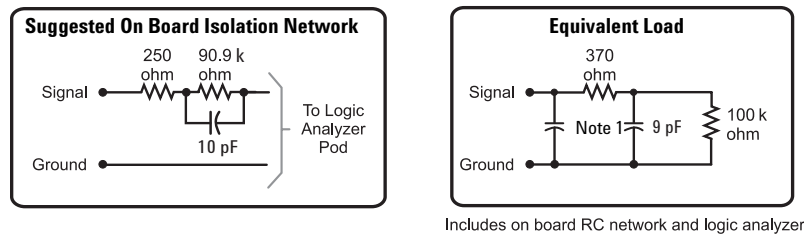

Figure 5.25. Suggested on-board isolation network and equivalent load when using discrete components to terminate the E5351A
Discrete components can be used in the design of the RC network. Agilent Technologies recommends the circuit shown in Figure 5.25. To achieve the equivalent load shown in the figure, trace lengths should be minimized by locating the RC network very near the measured node. Actual load will be the stub length load added to the equivalent load in the figure.
- Use discrete components. Refer to Figure 5.25 for recommended components and equivalent load.